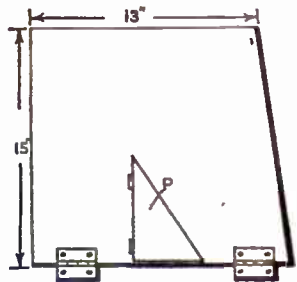

Fig. 8
The board used across the arms of the chair can be an adapted drawing board you may have, or it can be made by oneself. Where the board is needed to be raised in a slanted position, as for drawing, two stays are hinged to the board to achieve this, and to prevent the board slipping, the stays (1/2in. plywood) are sawn out to the shape seen in Fig. 8. The little piece (R) left projecting, need only be about 1/2in. long, and it pegs into a